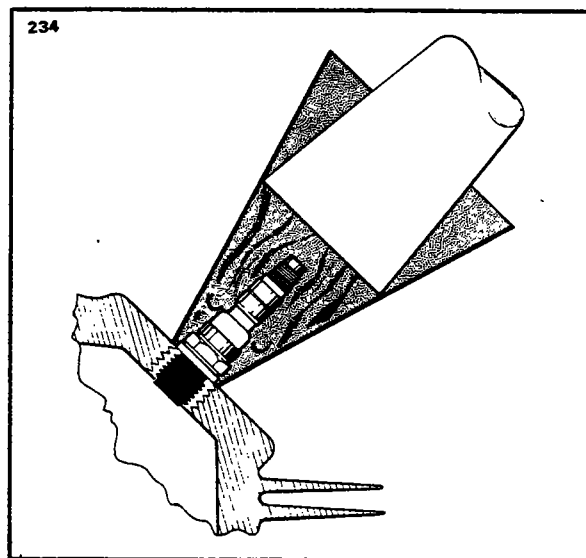

Figure 8A-31. Removing Spark Plug
d. Removal of seized spark plugs in the cylinder may be accomplished by application of liquid carbon dioxide by a Conical metal funnel adapter with a hole at the apex just large enough to accommodate the funnel of a CO2 bottle. (Refer to Figure 8A-31.) When a seized spark plug cannot be removed by normal means, the funnel adapter is placed over and around the spark plug. Place the funnel of the CO2 bottle inside the funnel adapter and release the carbon dioxide to chill and contract the spark plug. Break the spark plug loose with a wrench. A warm cylinder head at the time the carbon dioxide is applied will aid in the removal of an excessively seized plug.